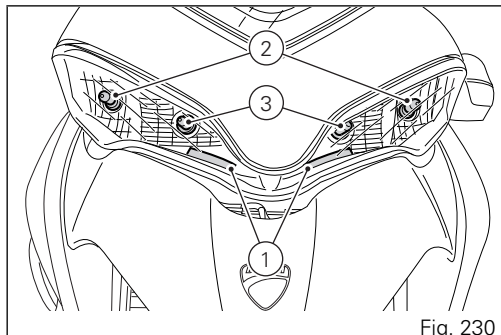

Fig. 230
(Fig. 230) shows the location of the LED parking lights (1), the LED low beams (2) and the high beam bulbs (3).